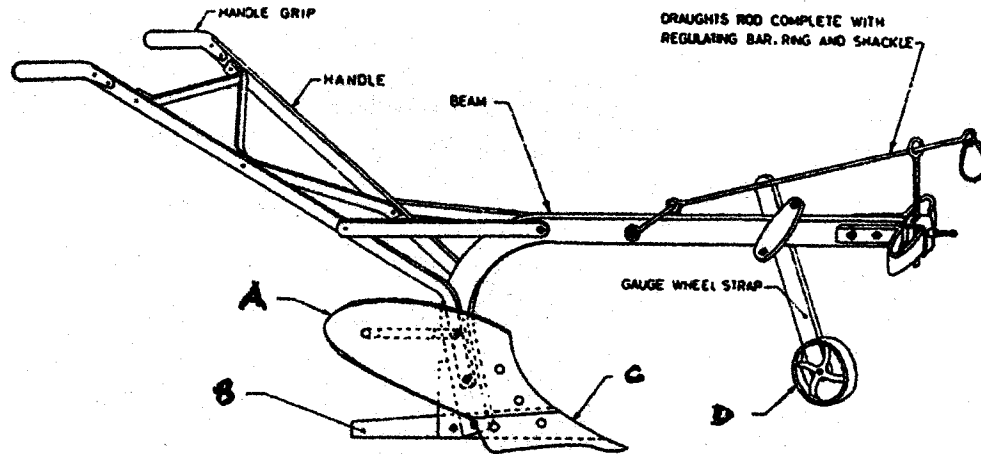

Figure 1 Ox-drawn mouldboard plough
- a) Figure 1 shows various mounting possibilities of farm equipment to a tractor.
Figure 1 common types of attaching implements to tractors
b) Figure 1 shows the parts of an ox-drawn plough.